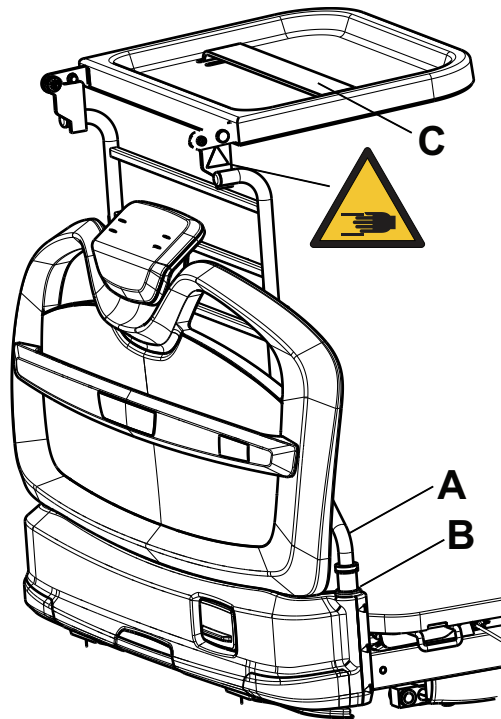

Figure 28 – Attaching the defibrillator tray
2. Insert the tray weldment frame (A) into the traction posts (B) at the foot end of the product (Figure 28).
2. Using the strap (C), strap the defibrillator to the defibrillator tray (Figure 28).